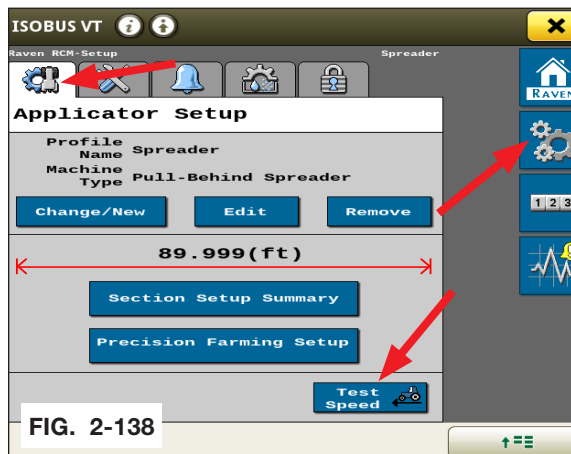

FIG. 2-138
1. To set spreader test speed, go to Settings page - the 3 gears tab. (FIG. 2-138)
2. In the Settings page, select the “Applicator Setup” tab and then click the “Test Speed” button at the bottom of the screen. (FIG. 2-138)